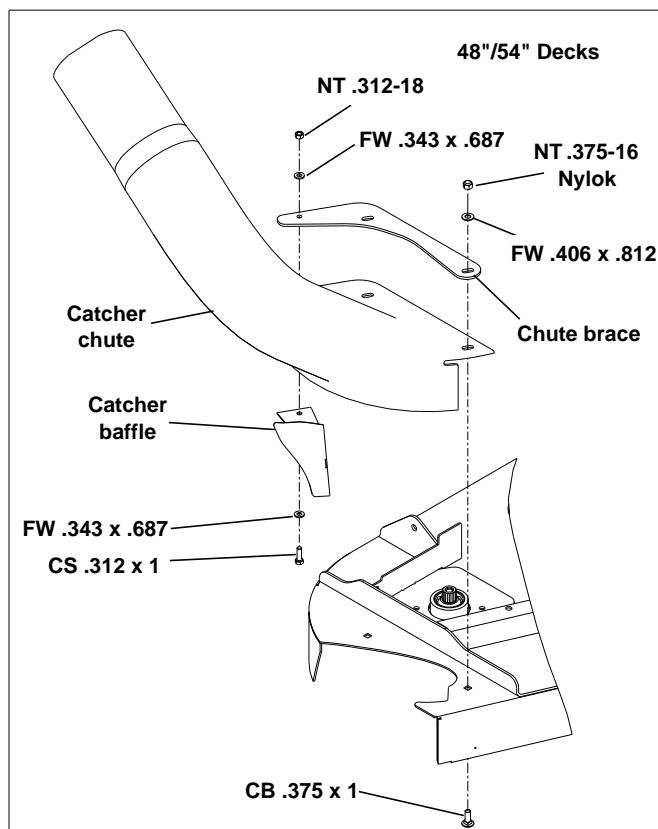

Figure 3-2
4. **48"/54" Decks only:** Attach the chute baffle to the catcher chute. Do not tighten hardware at this time. Figure 3-2
Attach the catcher chute and chute plate to deck. Adjust baffle to fully close off the deck discharge opening. Tighten all hardware. Figure 3-2